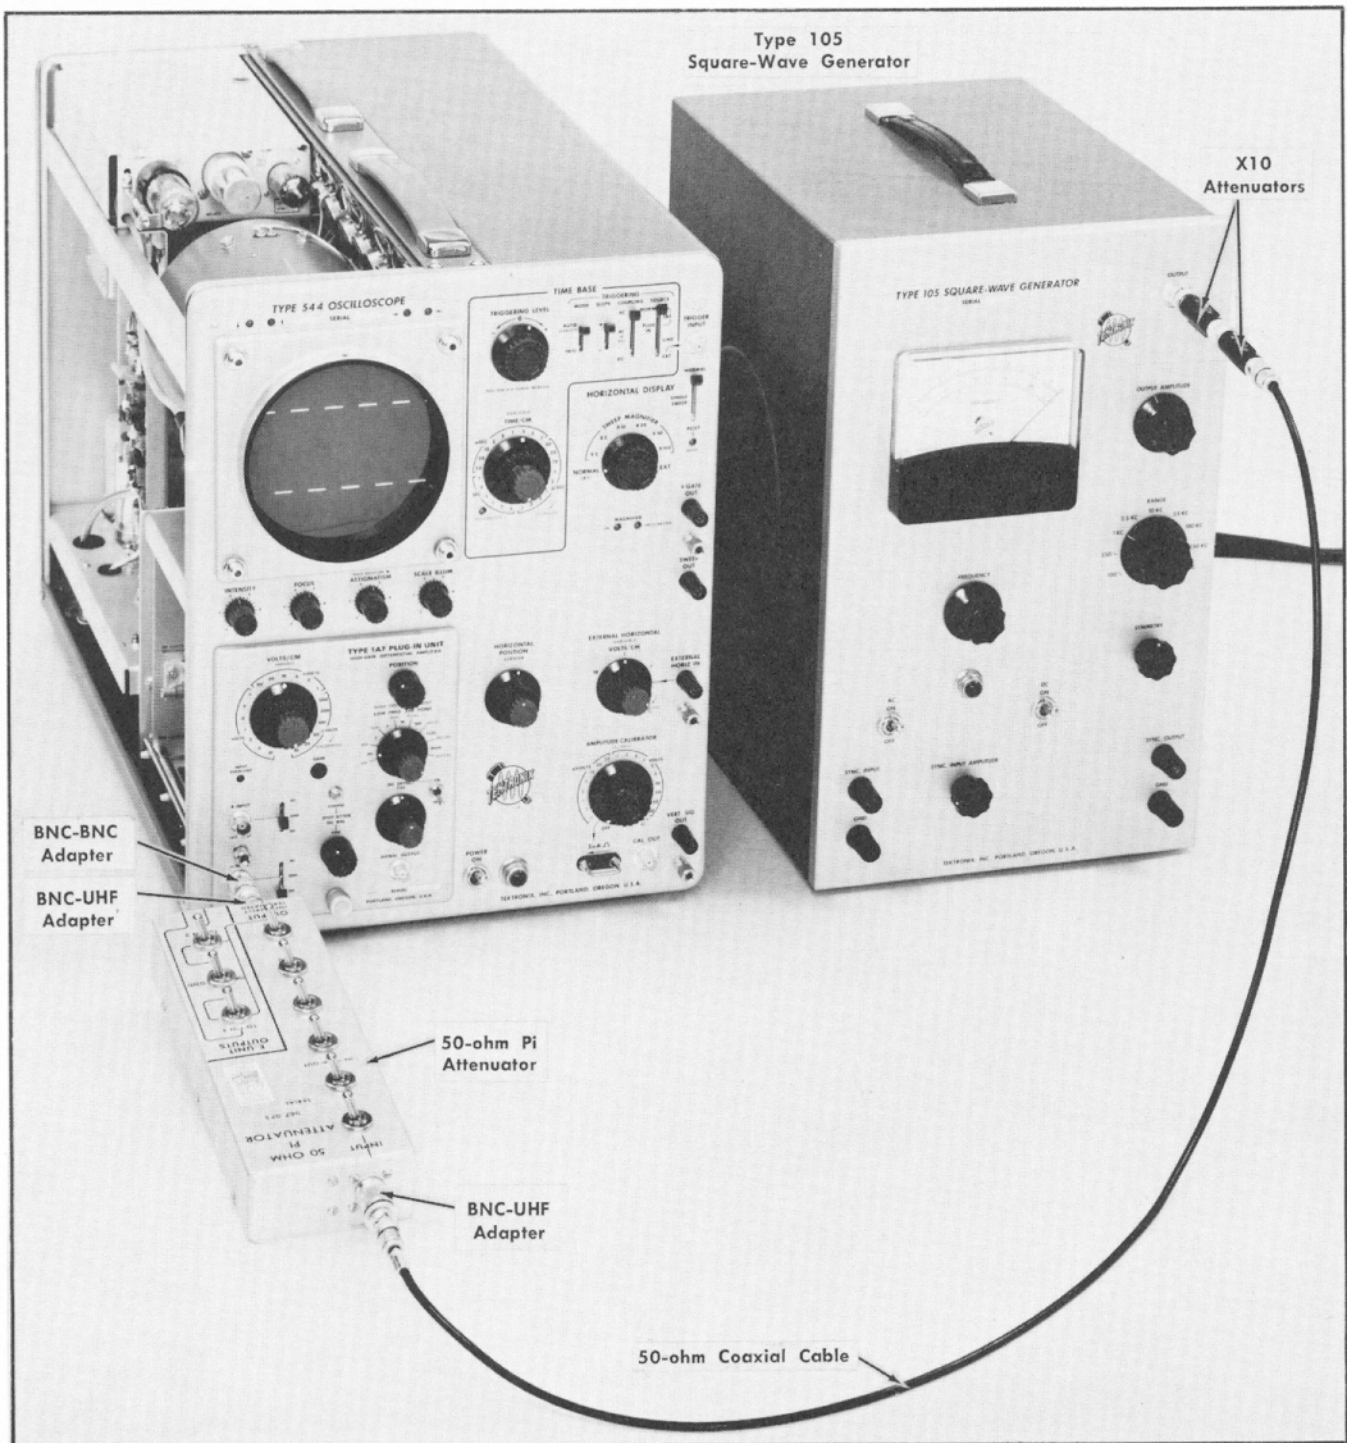

Fig. 6-22. Setup at completion of step 15c.
b. Apply a 1-kHz signal from the Type 105 through two 10× attenuators, coaxial cable, BNC-UHF adapter (item 12), 50-ohm Pi attenuator (item 11), BNC-UHF adapter (item 12), and a BNC-BNC adapter (item 13) to the —INPUT connector. Connect all devices in the order given. Fig. 6-22 shows the test setup.